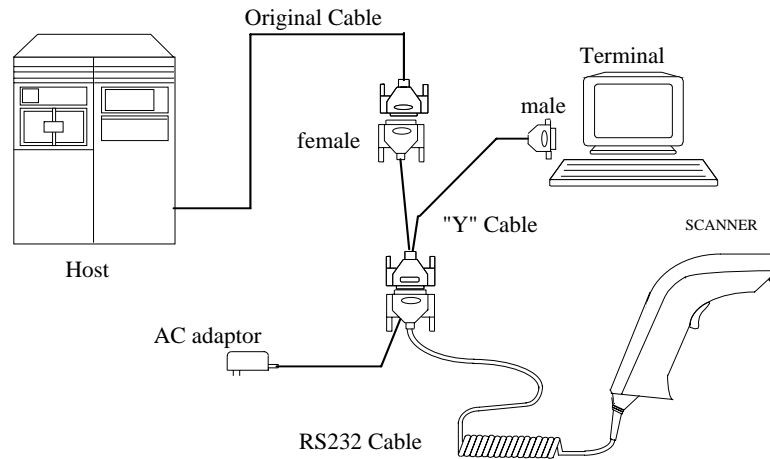

Figure 3. Installing as a Terminal Wedge
To install the scanner as a terminal interface, you need a DB25 RS232 cable, a terminal wedge “Y” cable and an AC adapter. See Figure 3 for reference.
- 2) Install the interface cable as shown in Figure 3. The “Y” cable provided in Figure 3 is for terminals with female connector on communication port. If there is a male connector on your terminal, you need a converter to change that male to female and another converter to change the female to male on host connector.